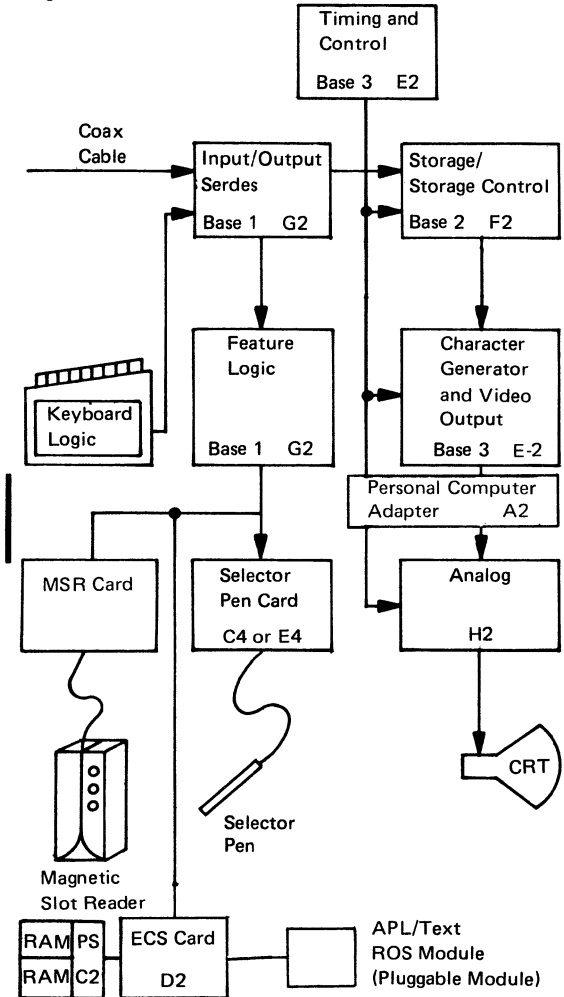
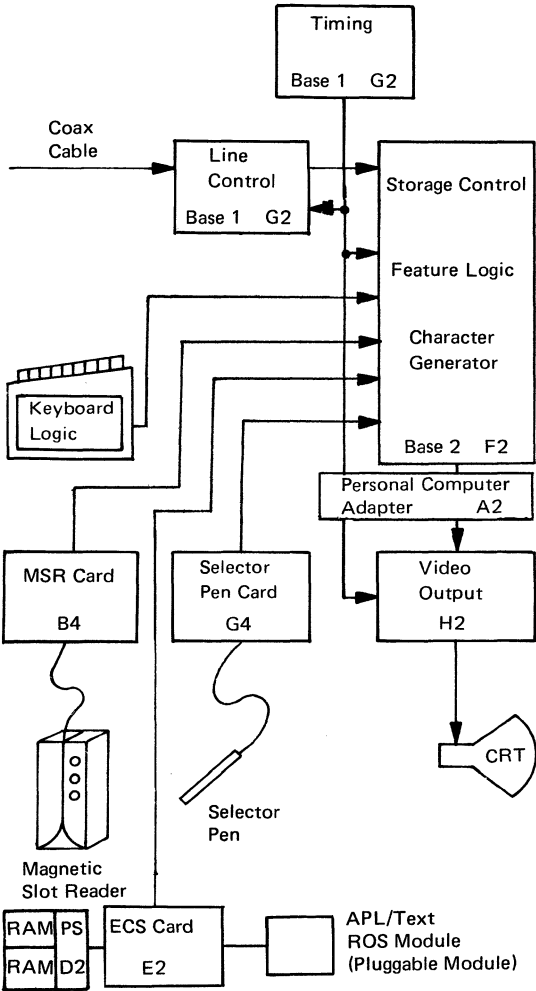

Figure 1-1. 3278 Field Replaceable Units, (D) Type
Figure 1-2. 3278 Field Replaceable Units, (M) Type
The IBM 3278 Display Station must be attached to a port of the IBM 3274 Control Unit or of the IBM 3276 Control Unit Display Station (or other compatible controllers) by a coaxial cable. The 3278 contains field replaceable units (FRUs), as shown in Figures 1-1 and 1-2.
There are two configurations of the logic for the 3278 Display Station. The first is the (D) type, shown in Figures 1-1, 4-6, and 4-7. Three base logic cards are used in this configuration: base 1 (G2), base 2 (F2), and base 3 (E2). The second configuration, the (M) type, shown in Figures 1-2, 4-8, and 4-9, has two base cards: base 1 (G2) and base 2 (F2). Note the new locations of the feature cards when present with the second configuration.